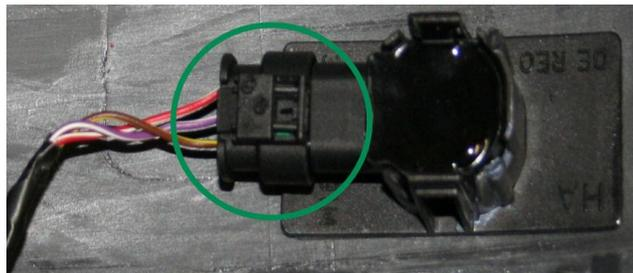

Figure 14. A correctly installed parking aid sensor connector.
13. Check the connectors on the parking sensors and the socket box for correct installation (Figure 14 and Figure 15). If the connectors are not installed properly, reinstall.